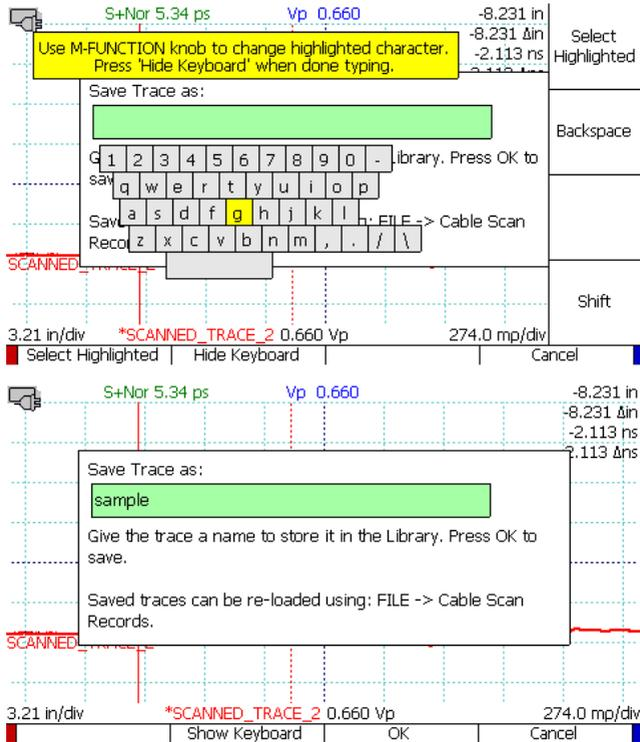

Figure 4.30. Using the on-screen keyboard. Choose Hide Keyboard when finished. Then choose OK to save the trace with the name you entered.
6. When using the on-screen keyboard use the *M-FUNCTION* knob to highlight characters. See Figure 4.30. Review Section 3.10.1 for more information on using the *Keyboard* menu. Press the *Select Highlighted* option to enter the highlighted letter into the name.
6. When using the on-screen keyboard, use the *M-FUNCTION* knob to highlight characters. See Figure 4.30 for more information on using the *Keyboard* menu. Press the *Select Highlighted* option to enter the highlighted letter into the name. Press *Hide Keyboard* to accept the name.